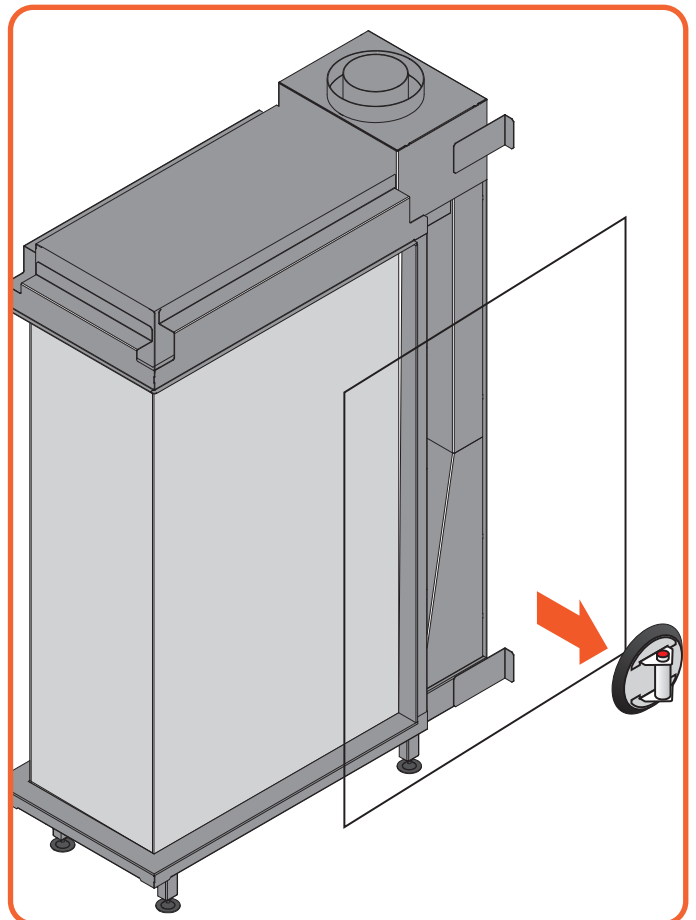

Figure 11.8 - Remove glass
- Lift the glass out of the lower glass rail and tilt it out through the opening, as seen in **Figure 11.8**.